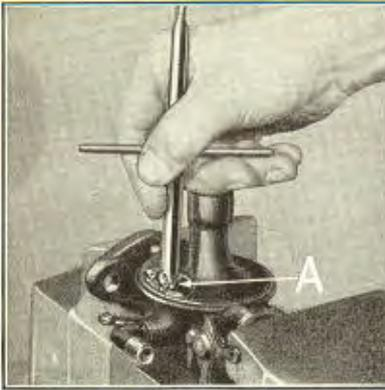

Fig. 432
- 880 Run out inlet seat (See "A" Fig. 432) from mixer chamber. Carburetor is now completely disassembled.
- 883 Insert inlet seat gasket and inlet seat into mixer chamber (See "A" Fig. 432).